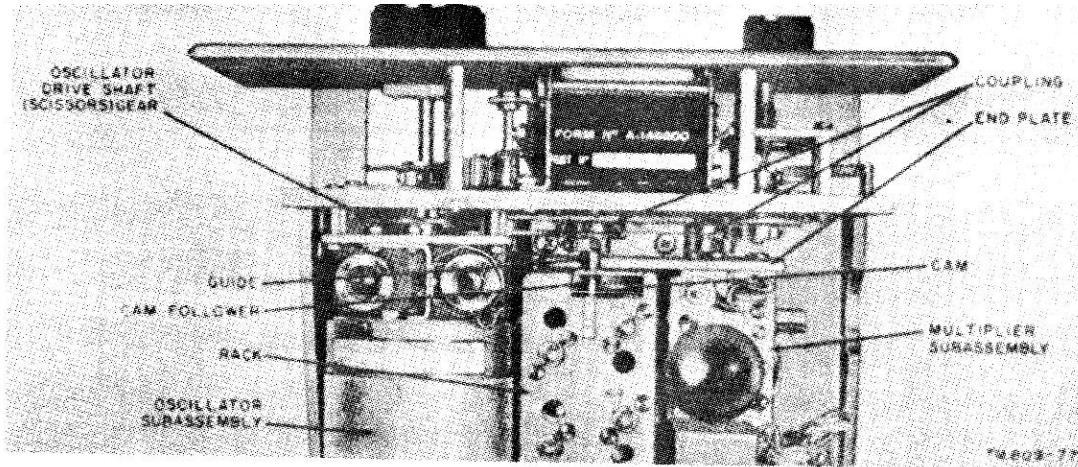

Figure 91. Oscillator-multiplier tuning drive, top view.
- (1) Disconnect plug P802 from receptacle J106 on the rear mounting bracket, and disconnect plug P801 from jack J101 on the multiplier subassembly.
- (2) Loosen the setscrews of the scissor gears (fig. 91) on the oscillator drive shaft.
- (3) While supporting the subassembly, remove the three screws that fasten the subassembly to the gear plate.
- (4) Still supporting the subassembly, loosen the two screws that fasten the rear mounting bracket to the bracket on the bottom plate. (As the latter bracket uses slotted holes, these screws need only be loosened and not completely removed.) The subassembly can now be removed.